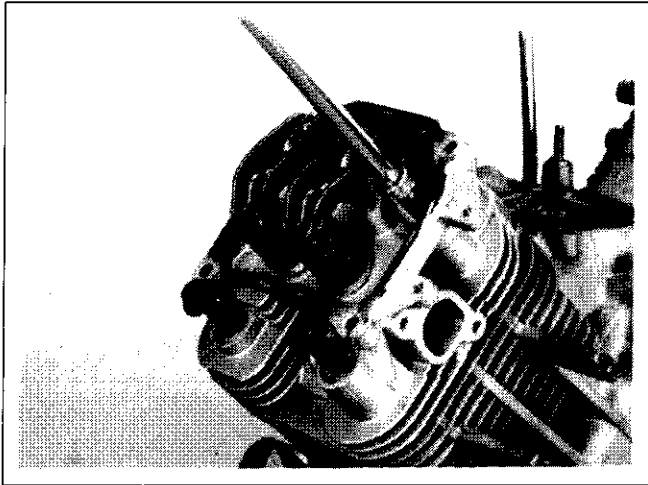

Figure 9-43. Removing Cylinder Head Fasteners.
1. Remove the four hex. flange screws securing each cylinder head. See Figure 9-43.